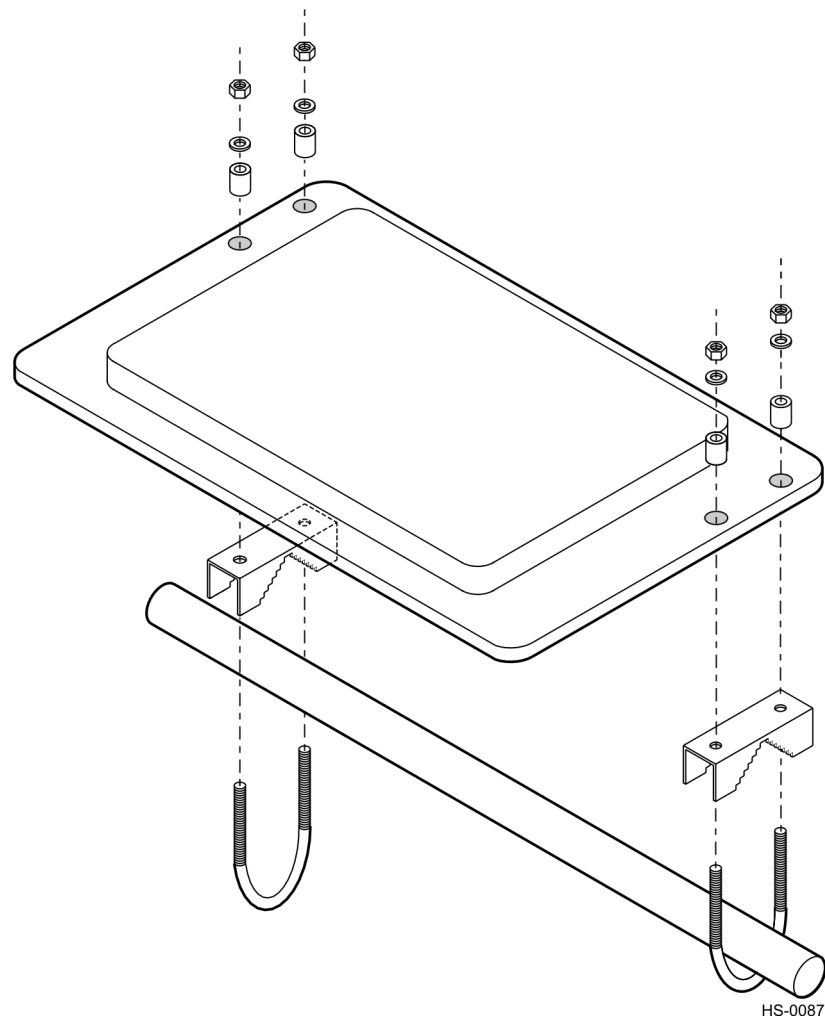

Figure 9-10 Transmit/Receive Antenna Mounting and Connections
1. Place the antenna below the mounting pipe and insert a U-bolt around the pole and down through the bracket on the side of the antenna closest to the center of the lane. This antenna should be mounted toward the driver side of the traffic lane. Place a spacer, lock washer, and nut over each end of the U-bolt, but do not tighten the nuts. Repeat for the other U-bolt (Figure 9-10).